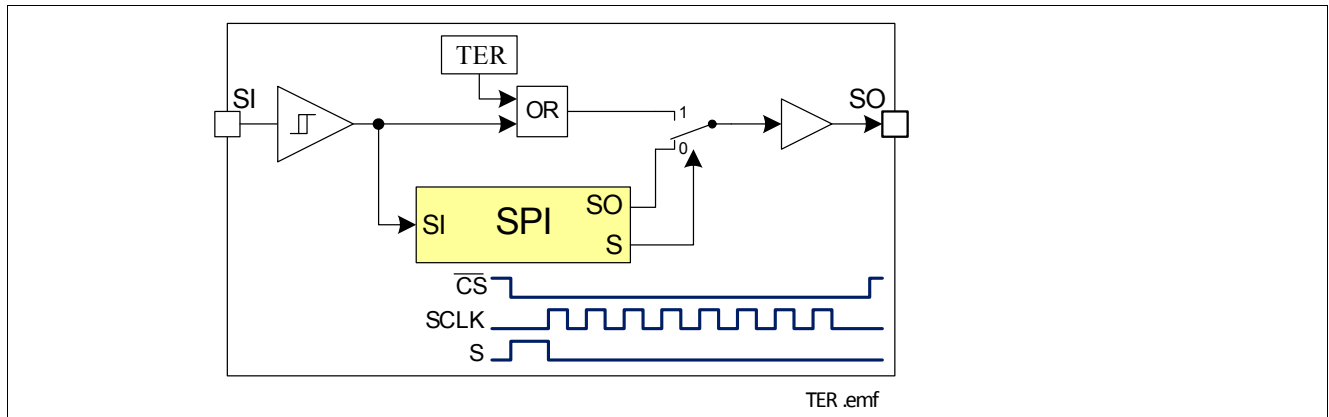

Figure 10 Transmission Error Flag on SO Line
- SO changes from high impedance state to high or low state depending on the logic OR combination between the transmission error flag ( $\overline{\text{TER}}$ ) and the signal level at pin SI. As a result, even in daisy chain configuration, a high signal indicates a faulty transmission. The transmission error flag is set after any kind of reset, so a reset between two SPI commands is indicated. For details, please refer to Figure 10. This information stays available to the first rising edge of SCLK.